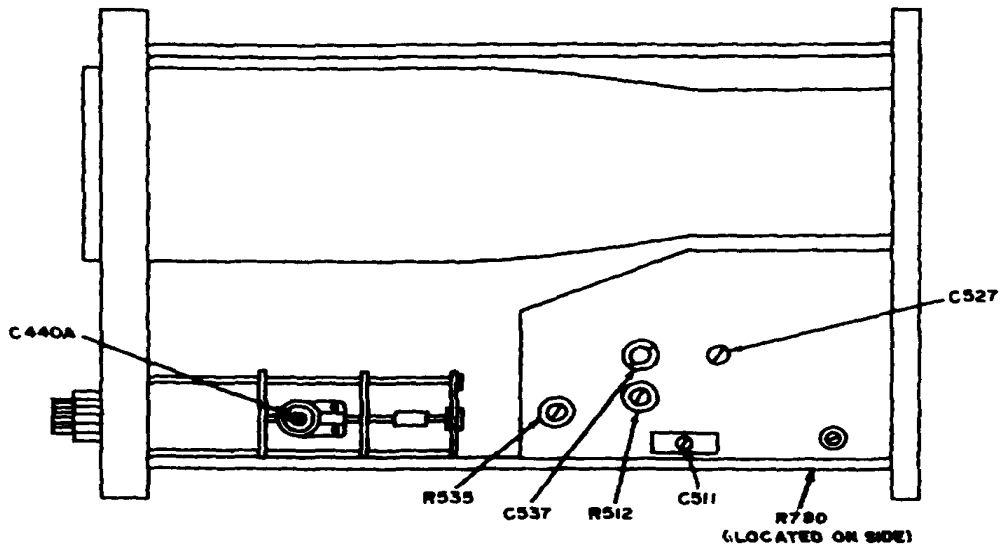

Figure 2. Test instrument - top view.
(4) Push in **X10 MAG** switch. If first marker does not remain aligned behind center vertical graticule line within ± 1 minor division, perform **b** below.
b. Adjustments. Adjust R535 (fig. 2) until first marker is positioned to center vertical graticule line for both **X10** and **X1 MAG** switch positions (R).
(5) Repeat technique of (1) and (2) above. If oscilloscope calibrator **Err** displayed does not indicate within ± 5 percent, perform **b(4)** below.
(6) Turn horizontal **POSITION** control until center portion of magnified sweep has marker aligned behind 2nd vertical graticule line. If 8th marker from 2nd vertical line is not aligned behind 10th vertical graticule line within ± 2.5 minor divisions, perform **b(5)** below.
(7) Set oscilloscope calibrator to standby.
b. Adjustments (fig. 2)
(1) Adjust R512 for best compromise of **TIME/DIV** switch positions from **1 mSEC** through **20 mSEC** (R).
(2) Adjust C440A for best compromise of **TIME/DIV** switch positions from **10 mSEC** through **1 mSEC** (R).
(3) Adjust C537 for **.5 mSEC** position of **TIME/DIV** switch (R).
(1) Adjust oscilloscope calibrator variable control for a 0.0 indication on **Err** readout. Record the amplitude of waveform on TI.
(2) Set TI **VOLTS/DIV** switch to **CALIBRATE 4 DIVISIONS** and adjust R780 (fig. 2) for value recorded in (1) above (R).